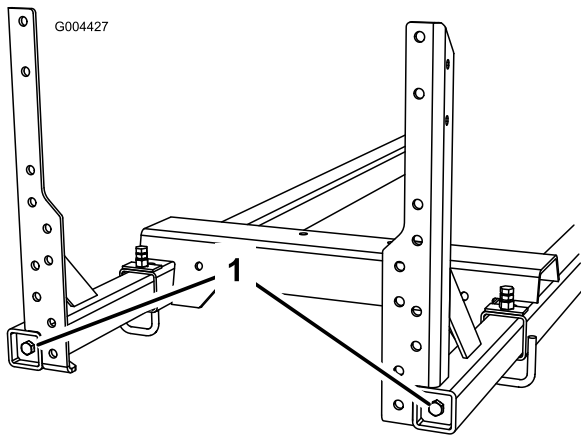

Figure 8
4. Tighten the boom-frame bolts (Figure 8). Torque the bolts to 91 to 113 N-m (67 to 83 ft-lb).